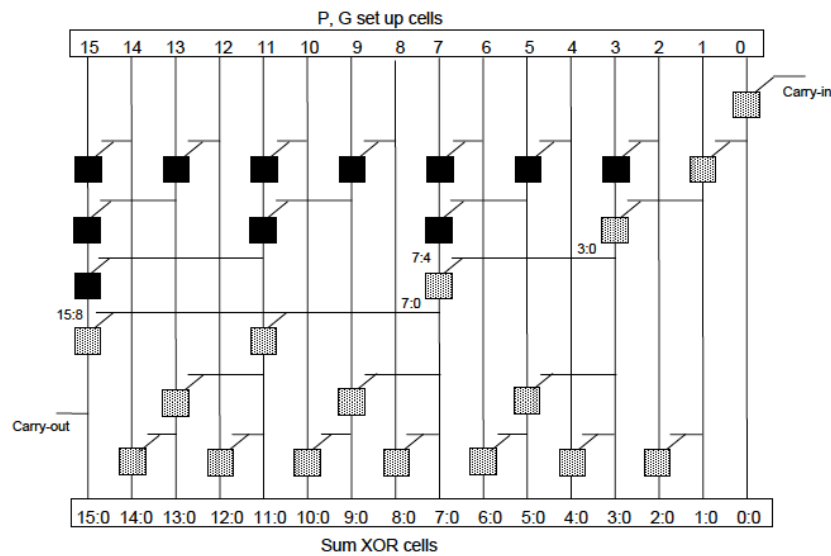
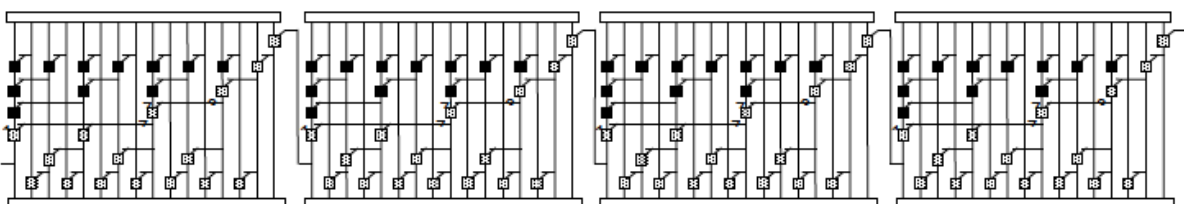

Figure 6: A 16-bit Brent-Kung prefix adder cell with carry-in signal.
Figure 7: A 64-bit adder constructed from four cascaded 16-bit Brent-Kung adders.
Assume that you have a 16-bit Brent-Kung adder available in your cell library; see Figure 6. The 16-bit Brent-Kung adder module is characterized by its set-up delay, t_{setup} , its summation delay, t_{XOR} , and the delay of the PG cells (also called dot-operator cells) in the internal prefix adder tree, t_{PG} . You now intend to construct a 64-bit adder by cascading four such Brent-Kung adders as shown in Figure 7.
- What if you wanted to also calculate the block propagate signal for the Brent-Kung 16-bit adder. What would you need to modify in the 16-bit adder cell shown in Figure 6? The figure is repeated on a tear-off sheet at the end of the exam - indicate your proposed changes on that sheet and hand it in with you solutions. (2 p)